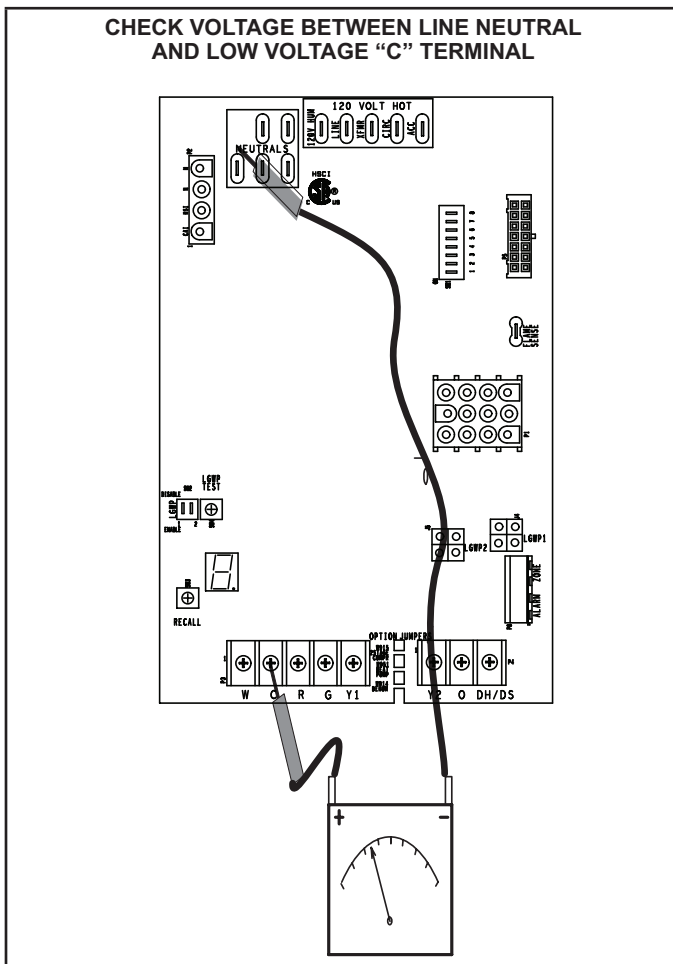

FIGURE 26
- 1 - Measure the AC voltage between Line Neutral (spade terminals) and "C" terminal (low voltage terminal block) on the integrated control. See FIGURE 26. A wide variation in the voltage between Line Neutral and "C" as a function of load indicates a poor or partial ground. Compare the readings to the table below. If the readings exceed the maximum shown in TABLE 20, make repairs before operating the furnace